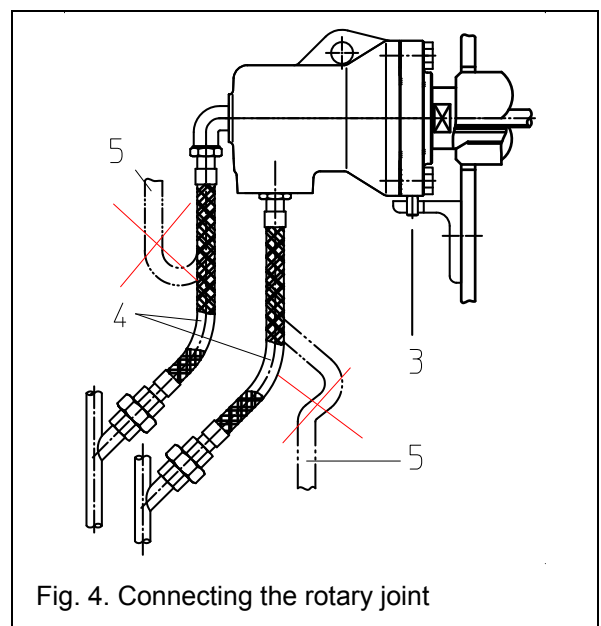

Fig. 4. Connecting the rotary joint
- Route the hoses as shown in fig. 4.